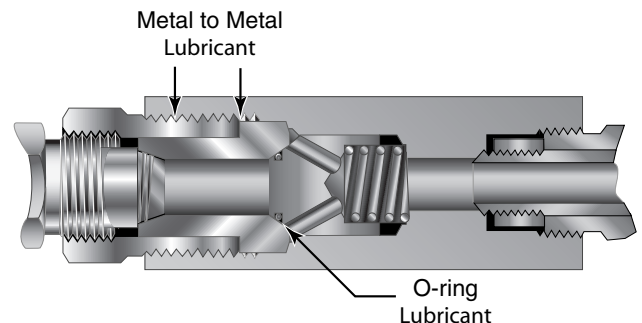

Figure 4
4. Check Valves - The gland nut should be lubricated on the external threads and at the end where it contacts the cover. The cover should be lubricated at the sealing surface where it contacts the body. For o-ring check valves, a small amount of o-ring lubricant on the o-ring will help swell the elastomer and aid sealing. Refer to Figure 4 for lubrication sites on check valves.